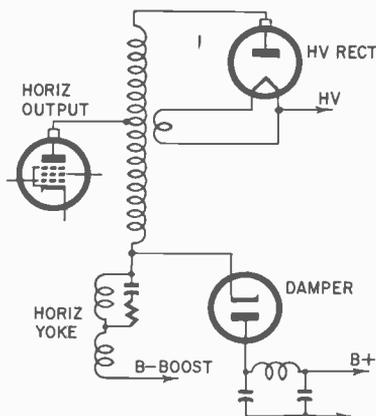

Fig. 808. *Direct drive type of horizontal output transformer.*
3. The direct-drive circuit uses a simpler flyback that consists of only the plate and high-voltage winding as shown in Fig. 808. The yoke is connected in series at the lower end, back to the damper cathode and the boost voltage. Most of these can be identified by the flyback, which does not